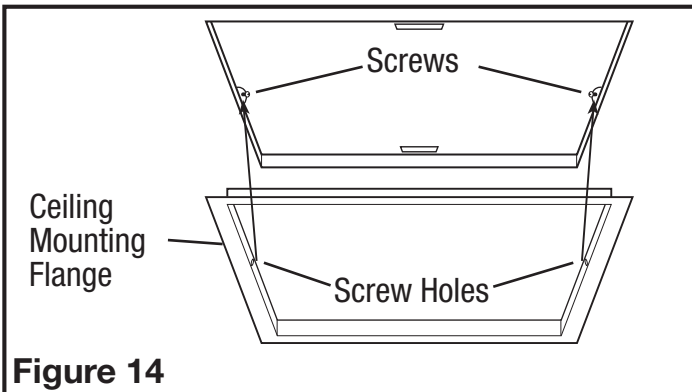

Figure 14
**NOTE:** If the mounting flange is installed on the fan housing, remove the two screws that connect the ceiling mounting flange to the housing and set aside (Figure 14).
5. Install the ceiling mounting flange to cover any gaps which exist between the housing and the finished ceiling. Remove the two screws that connect the ceiling mounting flange to the housing. Put sealant (not provided) on inside edge of the ceiling mounting flange to ensure that the flange is sealed to the ceiling. Line up the screw holes in the ceiling mounting flange with the screw holes on the inside of the housing and press flange in place so it is tight against the ceiling. Reinstall ceiling flange mounting screws inside the housing (Figure 14).